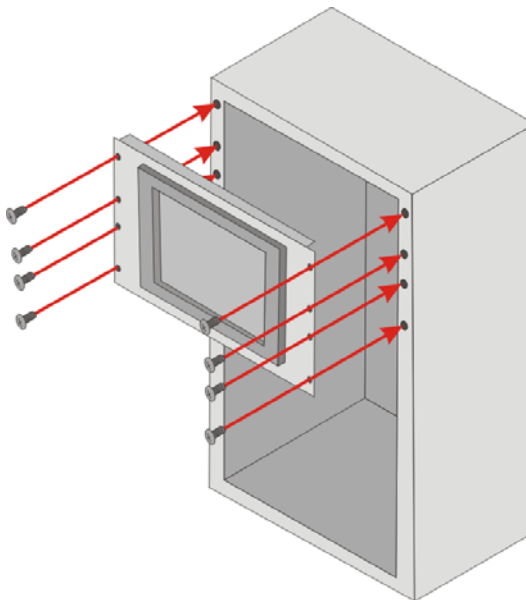

Figure 3-18: Install into a Rack/Cabinet
Step 6: Slide the panel PC with the attached rack/cabinet bracket into a rack or cabinet (Figure 3-18).
Step 7: Once the panel PC with the attached rack/cabinet bracket has been properly inserted into the rack or cabinet, secure the front of the rack/cabinet bracket to the front of the rack or cabinet (**Figure 3-18**).